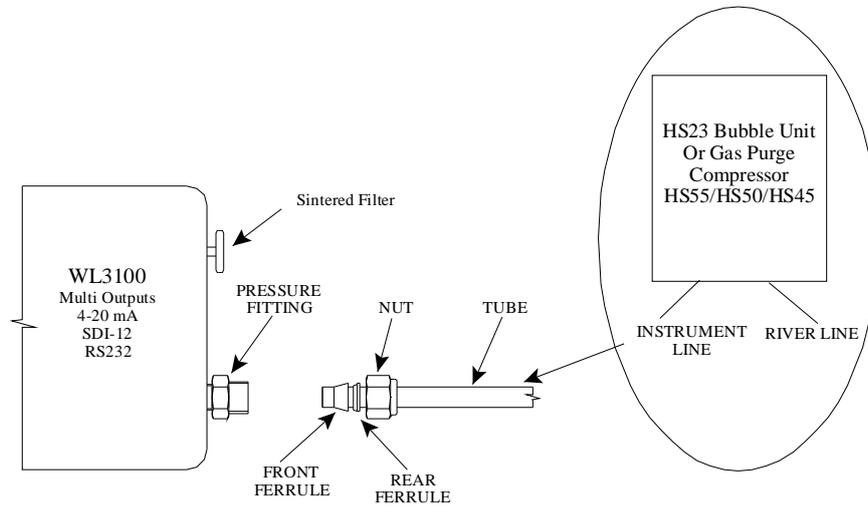

Figure2: Pressure Transducer Installation- Part (a)
1. Place the nut through the tube and then place the ferrules as shown in the figure2.